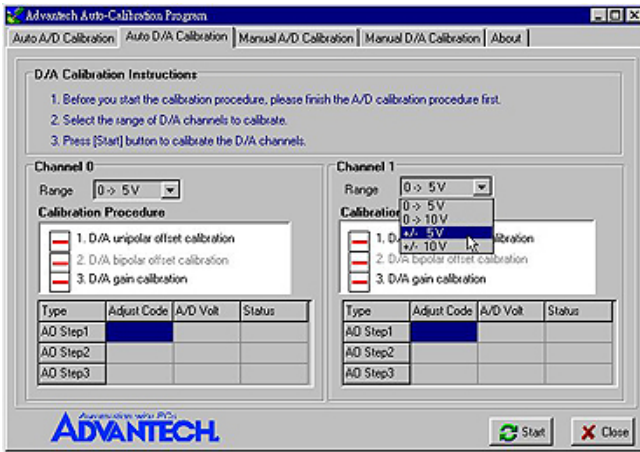

Figure 6-9: Range Selection in D/A Calibration
Step 9: Click the *Auto D/A Calibration* tab to show the D/A channel auto calibration panel. Please finish the A/D calibration procedure first before you start the D/A calibration procedure. There are two D/A channels in PCI-1712; select the output range for each channel and then press the start button to calibrate D/A channels (Fig. 6-9).